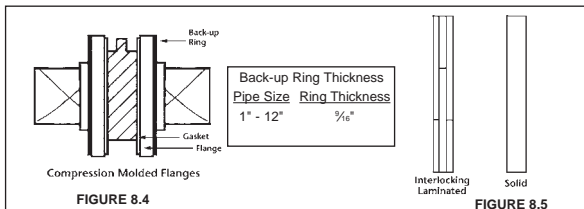

FIGURE 8.4
- c. Use metal back-up rings behind molded fiberglass flanges (See Figs. 8.4 and 8.5).